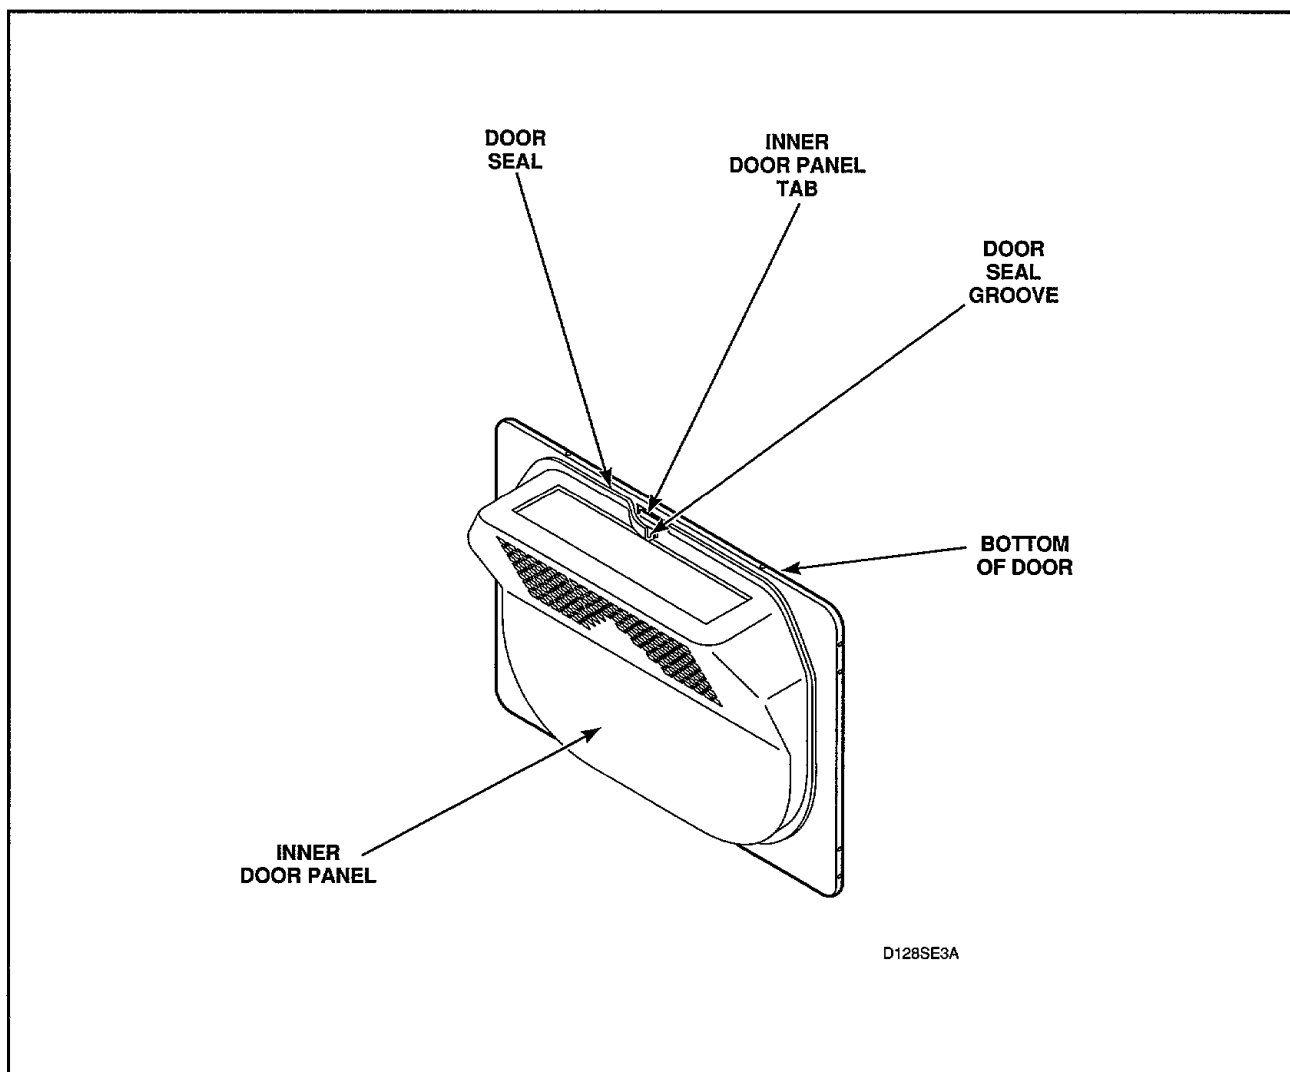

Figure 25
- Grasp either end of door seal at bottom of door and remove seal from tabs on inner door panel, *Figure 25*.
NOTE: When replacing seal, make sure seal is not stretched or distorted and the groove in the seal is installed on each tab on inner door panel, *Figure 25*, and the split in the seal is at the bottom of the door.